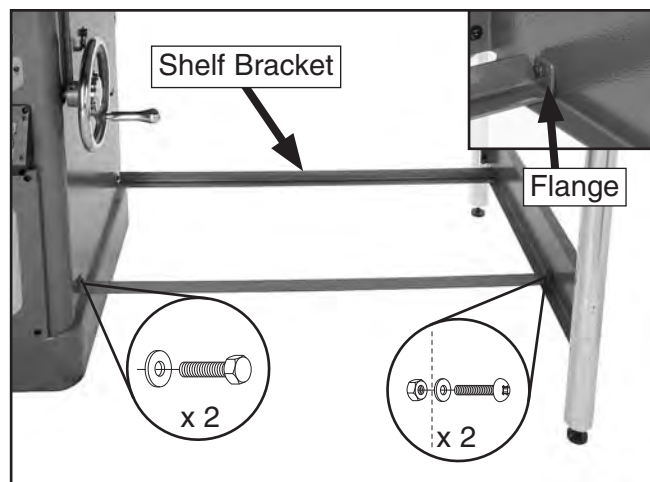

Figure 22. Shelf brackets installed.
12. Place the shelf brackets between the cabinet and support legs, and fasten with two M6-1 x 12 Phillip head screws, two M6-1 x 12 hex bolts, four 6mm flat washers and two M6-1 hex nuts, as shown in **Figure 22**.